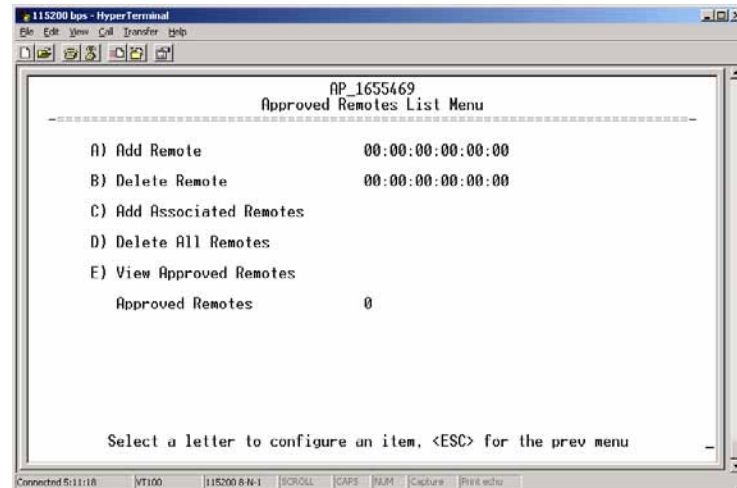

Figure 3-56. Approved Remotes Submenu
- ⌘ **Approved Remotes (AP only)** □ Launches a submenu where you can view, add, or delete approved Remotes. (See Figure 3-56.)